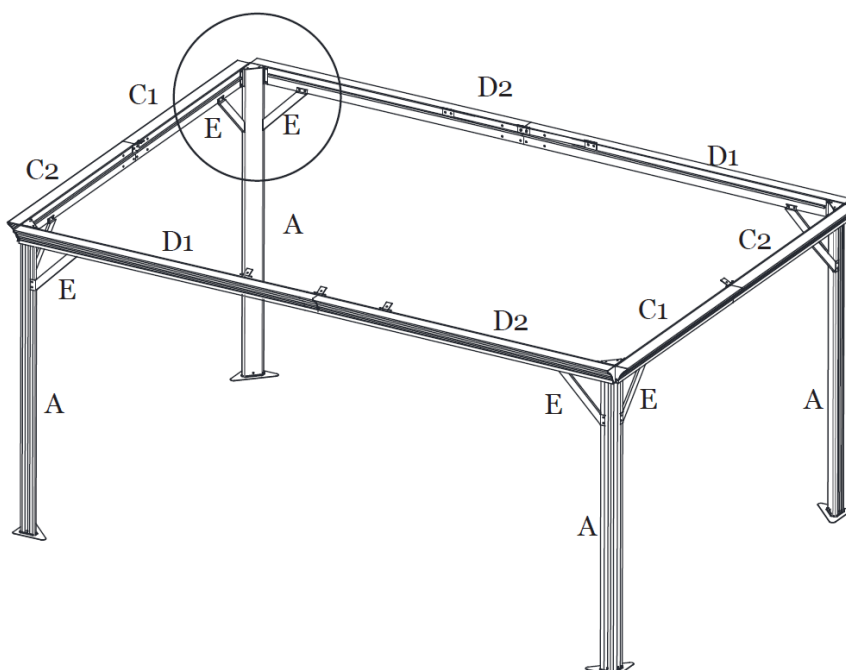

Figure 4-3
Step 4C: Repeat for all Corner Posts and Lintels. **Tighten all Bolts.** See Figure 4-3.